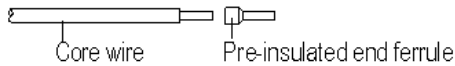

Figure 3-21 Set up the DC input cables
- (e) Crimp the DC cables with the attached pre-insulated end ferrule (16Pcs) by using the the crimping pliers. (see Figure 3-21)